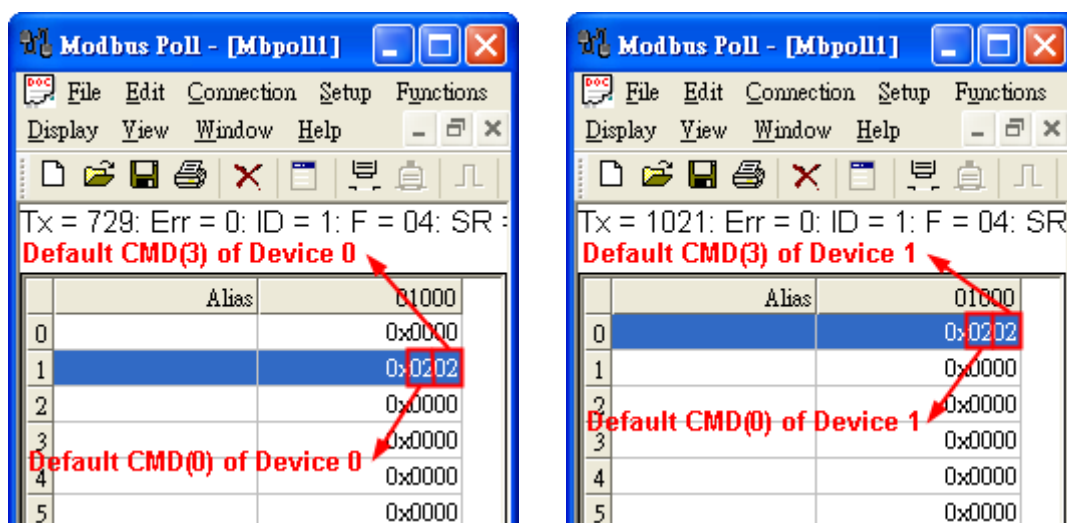

Figure 7-1.2 : The status of Default CMD(0&3) in Device 0 and Device 1
In the Figure 7-1.2, the status of the Default CMD(3) in device 0 is 0x02 and it means that the HART device for the Default CMD(3) is disconnected from I-9720. (In the Figure 7-1.2, the status of the Default CMD(0) is 0x02, too.)